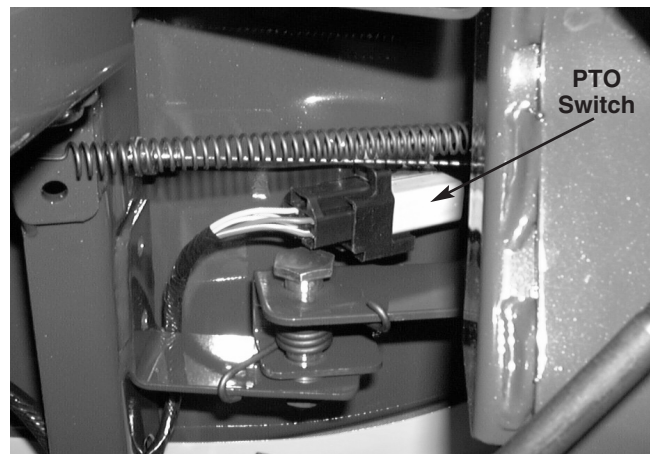

FIGURE 12.
- 29). Identify the **NC** (normally closed) terminals of the PTO switch. See figure 12.